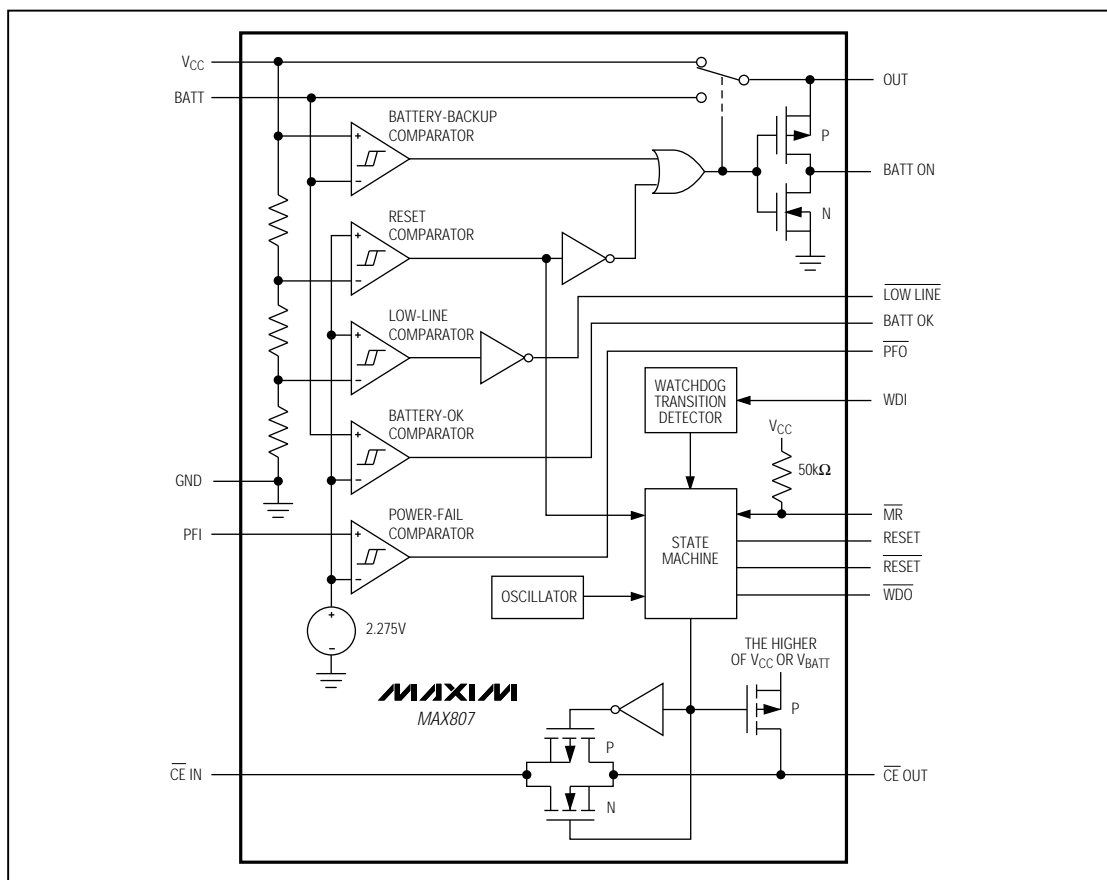

Figure 1. Block Diagram
The MAX807 microprocessor (μ P) supervisory circuit provides power-supply monitoring, backup-battery switchover, and program execution watchdog functions in μ P systems (Figure 1). Use of BiCMOS technology results in an improved 1.5% reset-threshold precision, while keeping supply currents typically below 70 μ A. The MAX807 is intended for battery-powered applications that require high reset-threshold precision, allowing a wide power-supply operating range while preventing the system from operating below its specified voltage range.
The MAX807 provides internal gating of chip-enable (CE) signals to prevent erroneous data from corrupting the CMOS RAM in the event of a power failure. During normal operation, the CE gate is enabled and passes all CE transitions. When reset is asserted, this path becomes disabled, preventing erroneous data from corrupting the CMOS RAM. The MAX807 uses a series transmission gate from the Chip-Enable Input ($\overline{\text{CE IN}}$) to the Chip-Enable Output ($\overline{\text{CE OUT}}$) (Figure 1).